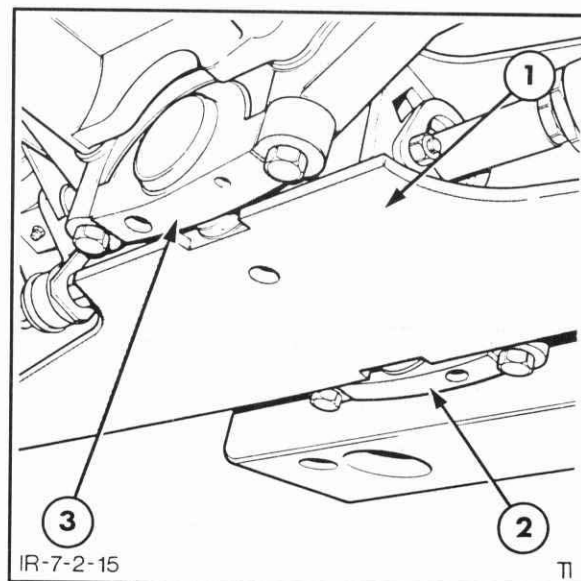

Figure 7-66
4. Support the front axle with suitable lifting equipment and remove the bolts securing the front and rear oscillation bearing caps. Refer to Figure 7-66.